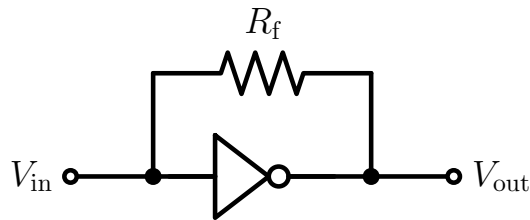

Figure 11: Self-biased inverter amplifier with feedback resistor R_f .
5. Open `amp.sch` in Xschem and add the feedback resistor between the `vin` and `vout` nets, as shown in Figure 11. Use the `rhigh` device of the PDK (`sg13cmos51_pr/rhigh.sym`), the high-sheet poly resistor, and set $W = 0.5\text{ m}$ and $L = 25\text{ m}$ with `q`. Keep `spiceprefix=X` and connect the `body` terminal to `VSS`. The symbol computes its value from the geometry, which gives $R_f \approx 74\text{ k}$ for these dimensions.